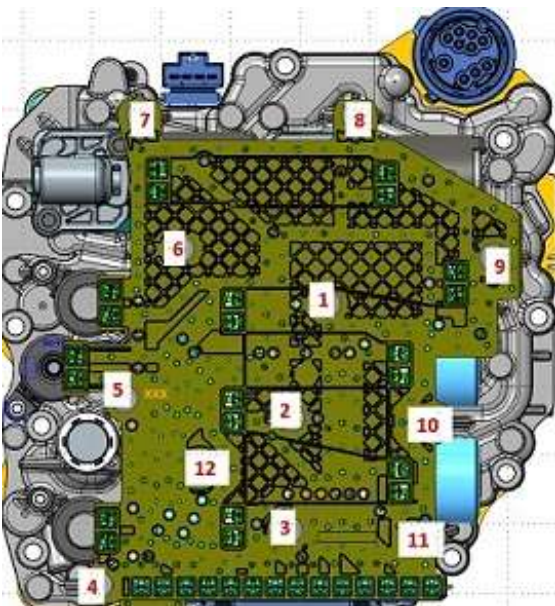

Figure 3. Mechatronic unit / contact plate for gearbox.
- Unscrew securing bolts for the contact plate (see figure 3, numbers 1-12).